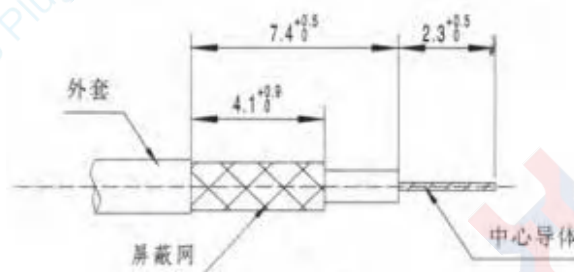

图24
① Strip the cable as shown in Figure 24. The end must be cut clean and perpendicular to the cable's axial plane. The cable must not be deformed during cutting.